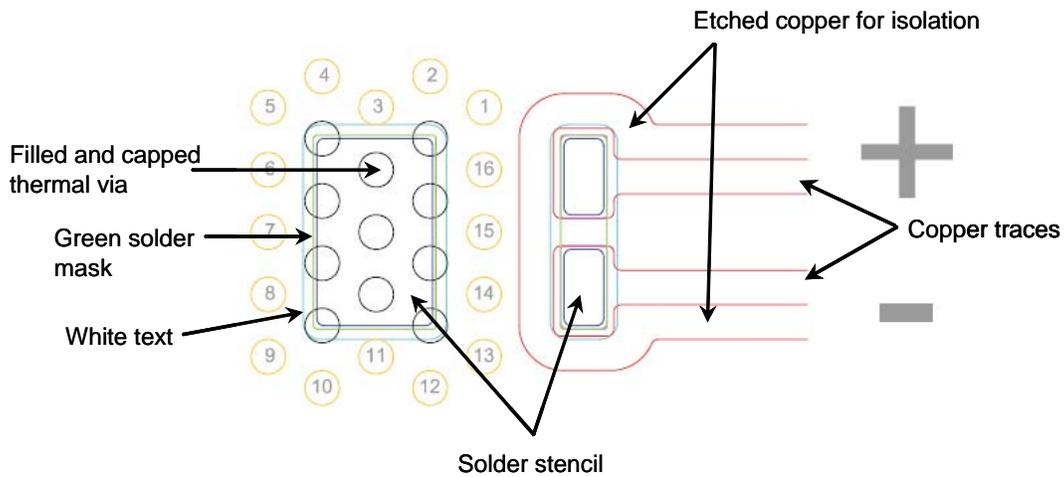

Figure 11a. Outline of recommended layout pad for LUXEON Rebel for filled and capped thermal via. See Figure 7b for alternate views.
**Filled and capped via design:** A cross section of this design for a standard two layers board is shown in Figure 10. The final thermal resistance is determined by the number and density of vias, the copper plating thickness, PTH thickness and the plugging material used to fill the vias. Figure 11a shows the recommended layout for two layer board. The thermal resistance for a 0.8mm thick FR4 PCB with these design features approaches 3K/W.